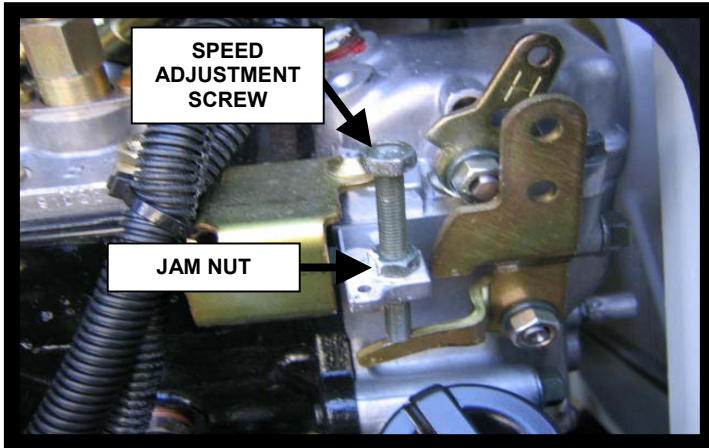

FIGURE 1 **COMPONENT OVERVIEW**
1. Locate the engine speed adjustment screw and jam nut on the injection pump governor housing (Figure 1).